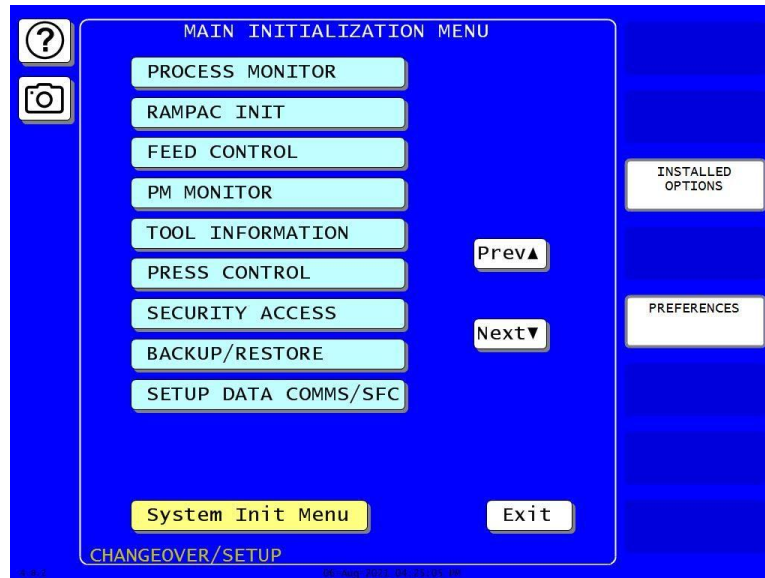

Figure 3-2. Main Initialization Menu
To initialize all parameters, see *Initializing WPC 2000 Parameters During Installation*, page 40. See your SmartPAC PRO User Manual for other Initialization settings, which are entered via the Main Initialization Menu (see Figure 3-2, page 51).
1. Enter Initialization Mode by pressing INITIALIZATION MENU on the Main Program Menu screen. The Main Initialization Menu screen appears (Figure 3-2).